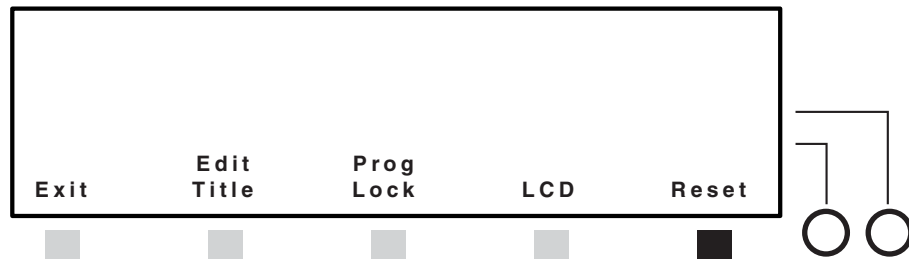

Figure 3-23 — Performing a reset
1. From the default menu, press the Menu button, then the Next button, then the Reset button (figure 3-23).